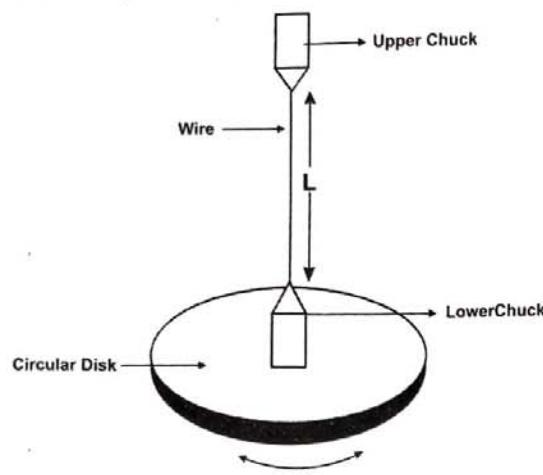

Fig. 1.3
A uniform thin wire whose rigidity modulus has to be found is suspended from a rigid support. The other end of the wire is attached to a circular disc using an adjustable chuck. The length of the suspension wire (L) between the point of suspension and the metal disc is the length of the torsional pendulum as shown in Fig. 1.3
Initially, without keeping the masses (Fig. 1.3) the length of the pendulum is adjusted, say 70 cm. Torsional oscillations are set up by giving a small twist to the disc. The time taken for 10 oscillations are found and hence time period, (T) which is nothing but the time taken for one oscillation is calculated.